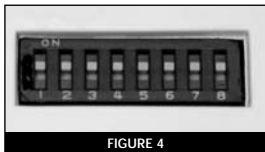

FIGURE 4
2. Find the 8-position dipswitch located on the back of each device. For this model, the dipswitch is located on the back of the device (see Figure 4).